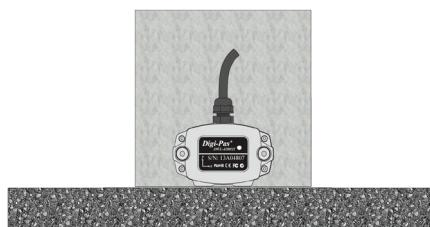
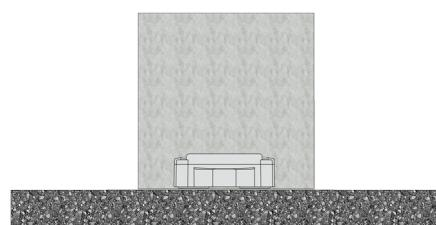

Figure 26. Compact Sensor Module Position of Calibration Step 1
Figure 33. Compact Sensor Module Position of Calibration Step 8
9. For **DWL4200XY** model, repeat step 3 to step 8. Please locate the sensor module in following positions (refer to Figure 26 to Figure 33) respectively.
10. For **DWL4500XY** model, please perform only 4 steps calibration as shown in Figure 26, 27, 32, and 33.